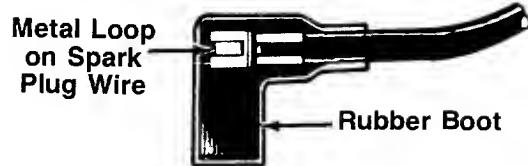

FIGURE 19.
- Attach spark plug wire to spark plug. If unit is equipped with a rubber boot over the end of the spark plug wire, make certain the metal loop on the end of the spark plug wire (inside the rubber boot) is fastened securely over the metal tip on the spark plug. See figure 19.